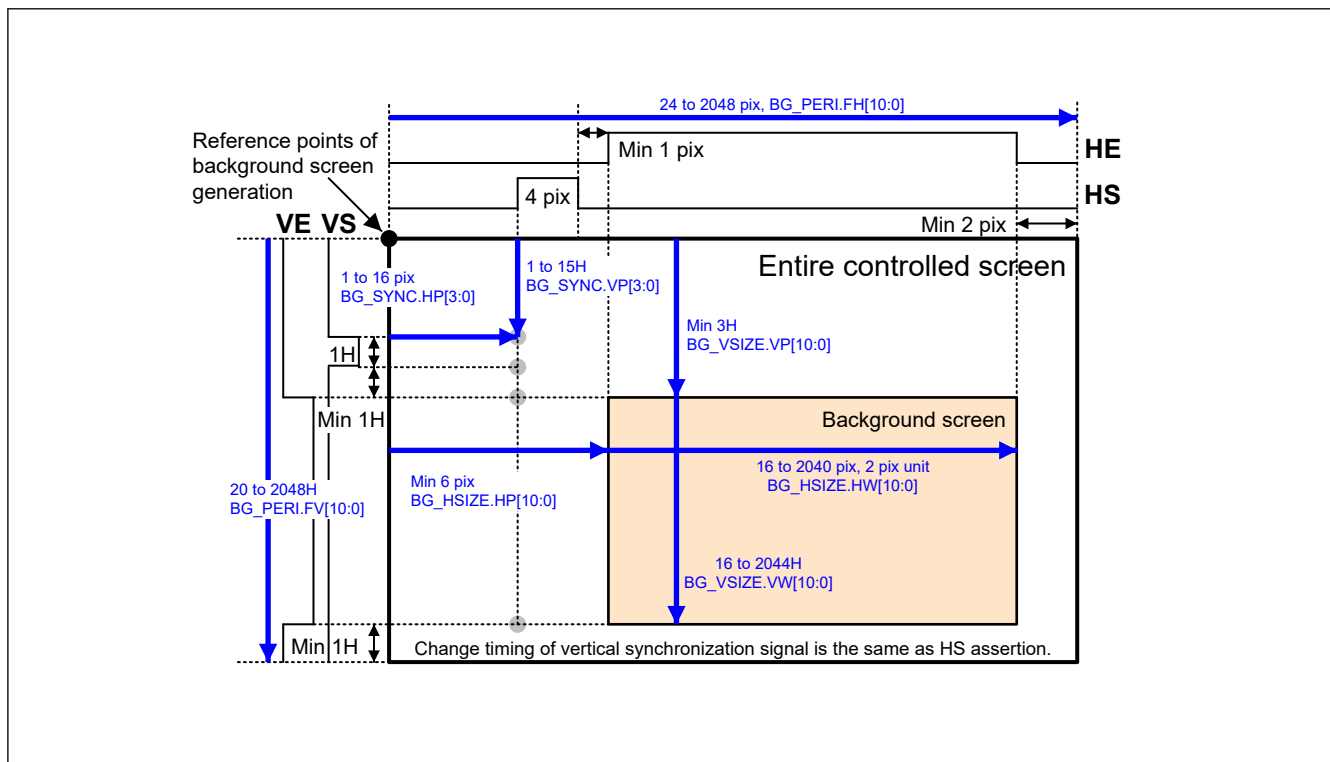
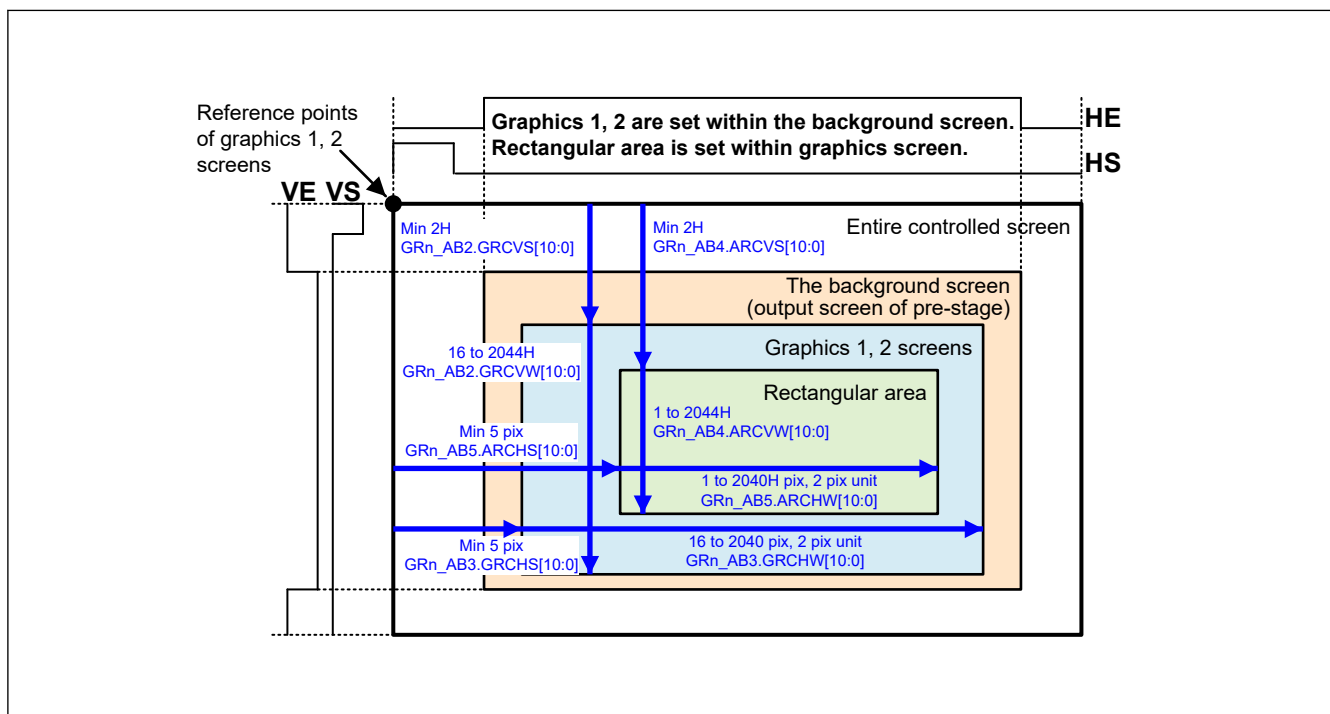

Figure 64.26 Definition of background screen
Figure 64.27 Definition of graphics 1 and 2 screens
The essential signals for GLCDC operations are generated by the background screen generation module, and the graphics 1 and 2 modules and output control module operate based on the sequentially transferred vertical and horizontal synchronization signals (VS and HS) and vertical and horizontal pixel enable signals (VE and HE). The reference point (frame start point) of the background screen cannot be determined by the output signals. The point shown in the figures is virtual and provided only for register settings. The reference points (frame start points) of the graphics 1 and 2 modules and output control module are the assertion of the vertical synchronization signal (VS), which is input (output) from the previous stage. Each module defines the valid pixel display area and special processing area for pixel data (rectangular areas for graphics 1 and 2) according to the position and width based on this reference point. Figure 64.26 shows the definition of the background screen, and Figure 64.27 shows the definition of the graphics 1 and 2 screen. The output control module performs correction for the entire valid pixel area (when both VE and HE are 1) output from the previous stage (graphics 2). (No registers are provided in the output control module for setting the correction area.) TCON in the output control module